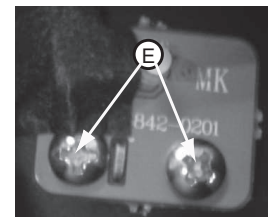

Figure 5
- 1) Loosen two screws "E" to remove LED Board as shown in figure 5